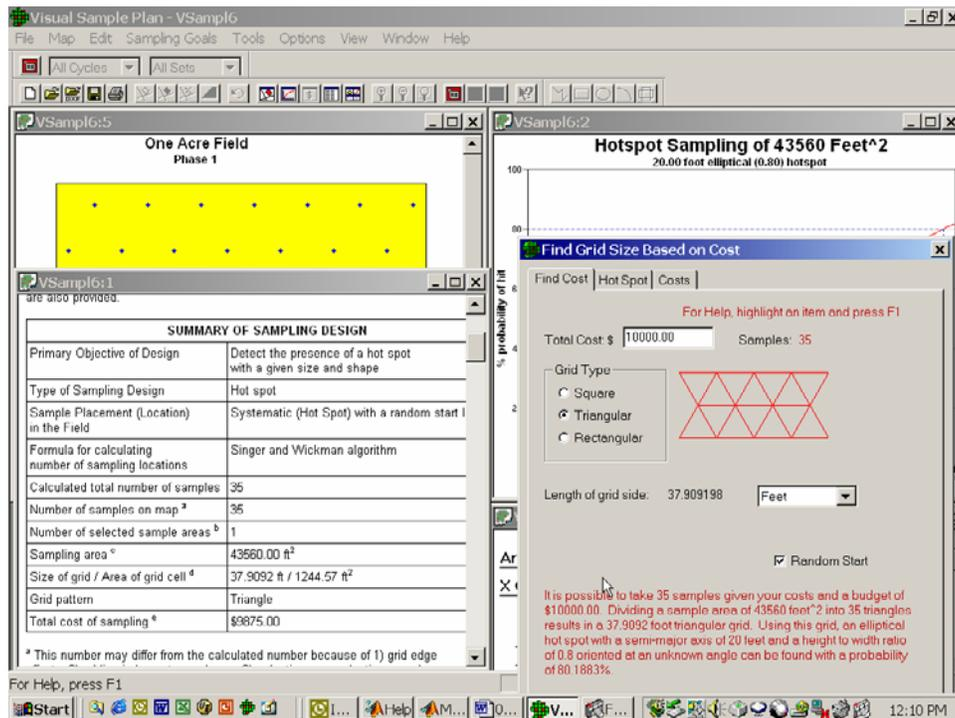

Figure 15. Hot-spot sampling option, “Predetermined Fixed Cost”
To make your screen look like Figure 15 below:
- Click **Apply**. Note (in the enlarged report window in the lower left-hand window of the **Quad Window**) that by fixing the total survey cost and the sample cost, we have reduced the number of samples to 35. However, the probability of hitting a hot spot has been reduced to about 80% (see Figure 15).